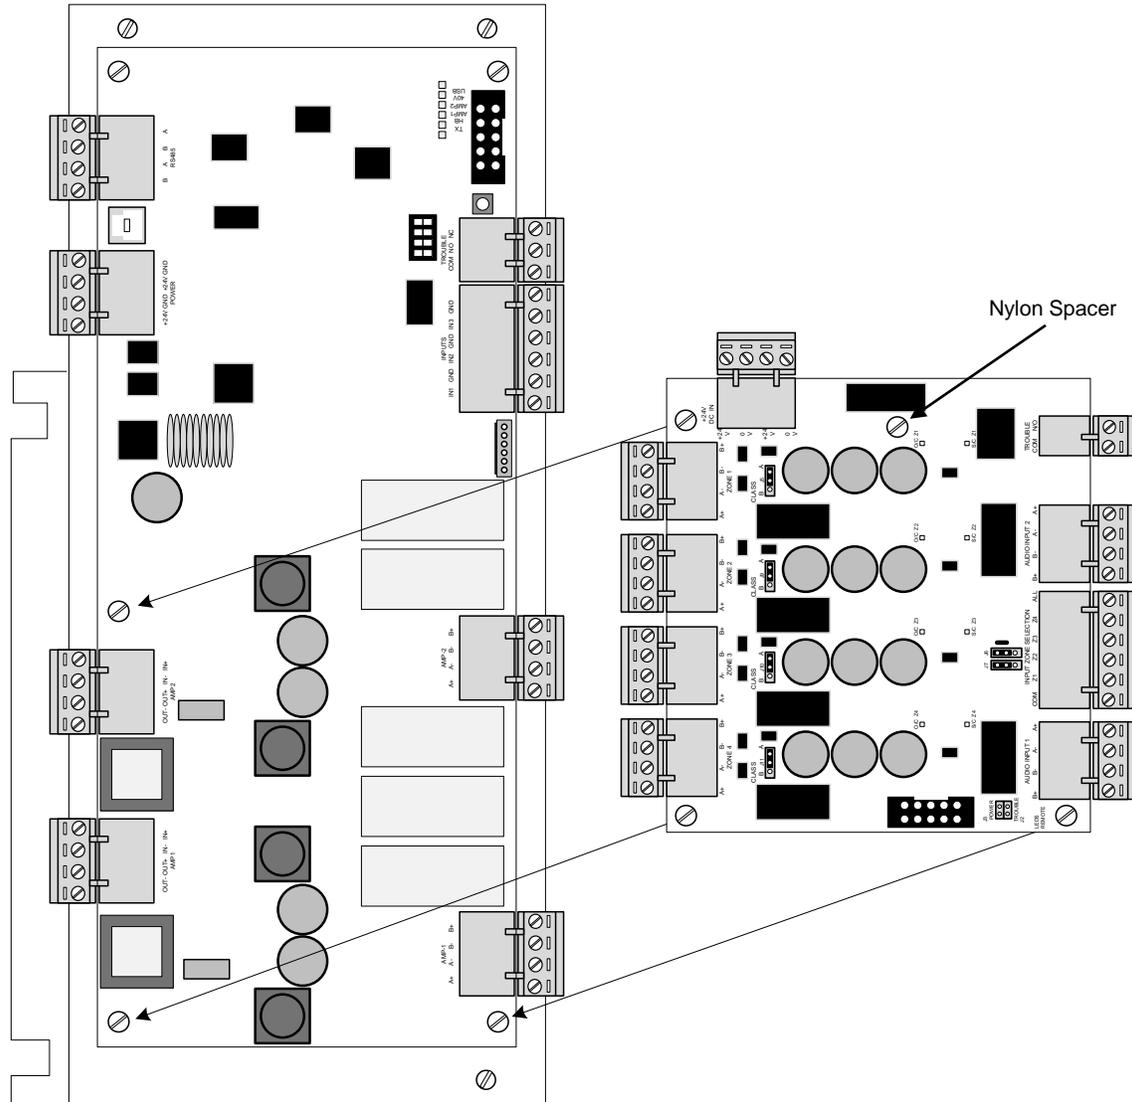

Figure 34 – NX-ZS to NX-AMP-80 Mounting
The NX-ZS audio zone splitter module is supplied with three (3) metal hexagon spacers and one (1) nylon spacer. Remove the three (3) lower screws securing the NX-AMP-80 module to its mounting plate and install the three (3) provided metal hexagon spacers. Install the provided nylon spacer into the fourth mounting hole on the NX-ZS module as indicated in figure 34.
Mount the NX-ZS audio zone splitter module above the NX-AMP-80 audio amplifier module to the three (3) previously installed metal hexagon spacers and secure with the previously removed screws (see figure 34).
If replacing an NX-ZS audio zone splitter module, remove power (AC and battery) from the system. Remove all field wiring terminal blocks from the NX-ZS module and remove the three (3) screws securing the module to the NX-AMP-80 amplifier. Place the new NX-ZS module over the metal hexagon spacers and reinsert and tighten the previously removed three (3) screws. It is critical that these screws be tightly secured as they are required for proper earth ground connection. Reinstall all removed field wiring terminal blocks from the NX-ZS module and reconnect AC and battery power to the system (see figure 34).